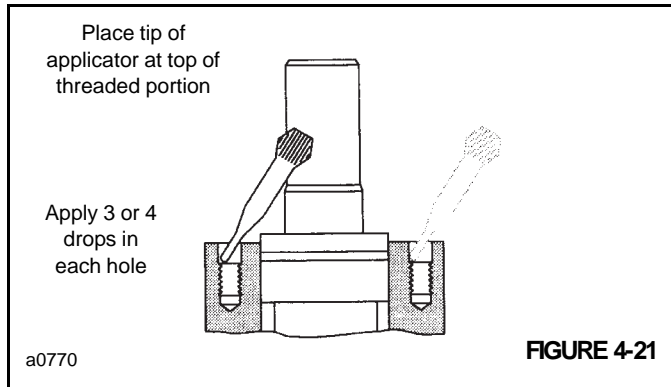

FIGURE 4-21
9. Apply 3 or 4 drops of Loctite sealant at the top of the threads for each of the four holes in the housing Figure 4-21. Do not allow parts with Loctite to come in contact with any metal parts other than those for assembly. Wipe off excess Loctite from housing face, using a non-petroleum base solvent.